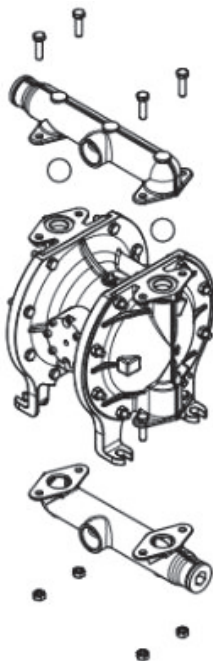

Fig. 3: Disassembly of the manifold and valve balls in the discharge manifold
- Loosen and remove the pressure connection screws (upper connection) (Fig. 3).
- Loosen and remove the suction manifold screws (Fig. 3)